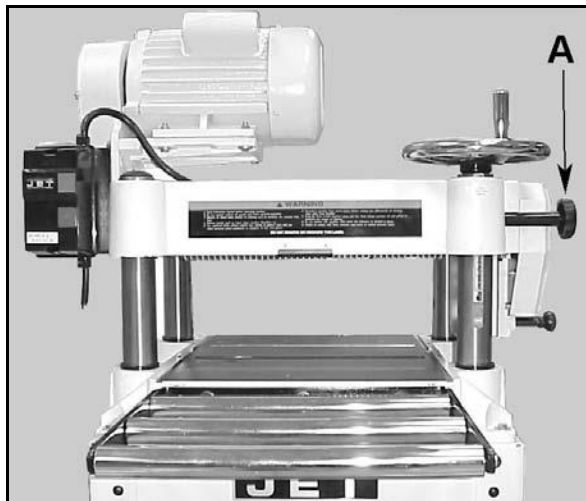

Figure 35
The gearbox is located on the right side of the planer directly behind the table lock knob (A, Fig. 35). The gearbox transfers power from the belt-driven cutterhead to the power feed rollers. A two-speed transmission, controlled by a push/pull lever (D), moves the stock through the planer at either 16 or 20 feet-per minute. The push/pull lever is set while the machine is running.
Before attempting to adjust table height, loosen the two table lock knobs, one on the right front of the head casting assembly (A, Fig. 35) and the other on the left rear.